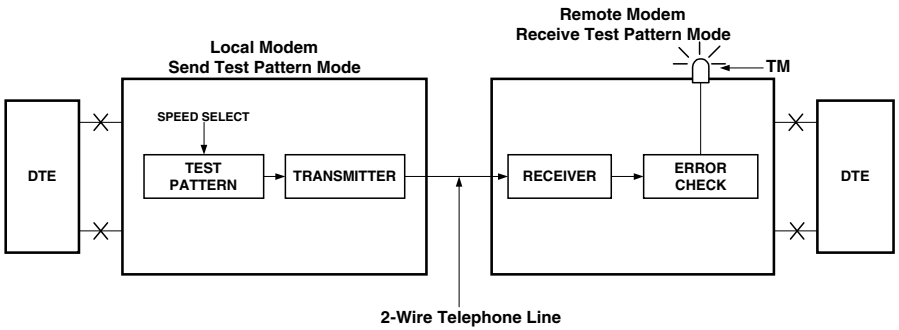

Figure 3-4. Transmit Test Pattern
- ❖ **TTP** (Transmit Test Pattern) — this setting forces the transmitter on and transmits data from the test generator to the COMM LINE. The RS-232-C interface lines (RTS, CTS, and Transmit Data) to the transmitter are not active. See Figure 3-4.